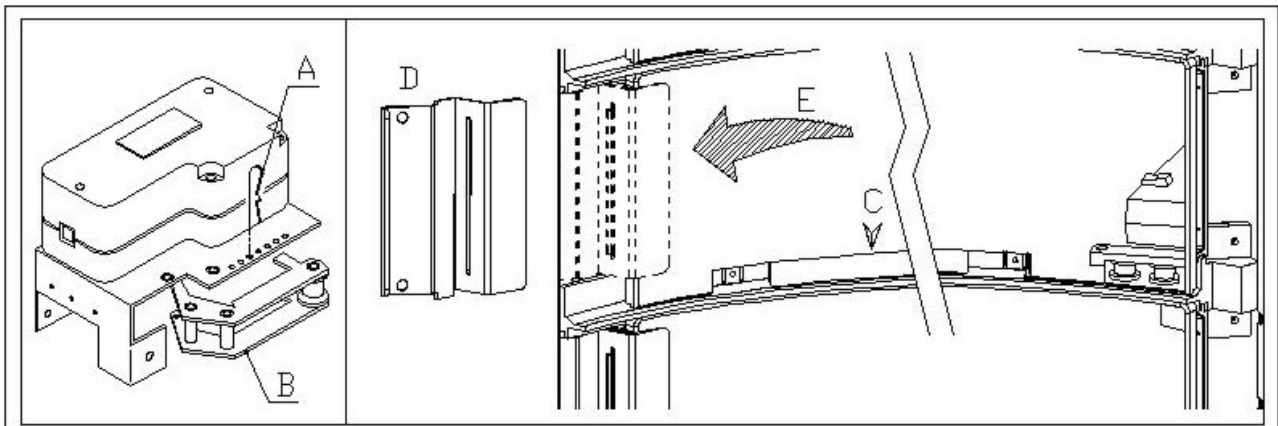

FIG. 15
### 8.9 REPLACING THE DELIVERY DOOR OPERATING BELT (FIG. 15)
- Remove the tension lock split pin from the relevant belt pos. A FIG. 15;
- Pull the tightening unit pos. B FIG. 15 downwards until it comes out completely;
- Remove the rear element pos. C FIG. 15 (if present, as it is an optional);
- Undo the screws that secure the door stop pos. D FIG. 15, and slide out the door in the direction indicated by the arrow pos. E;